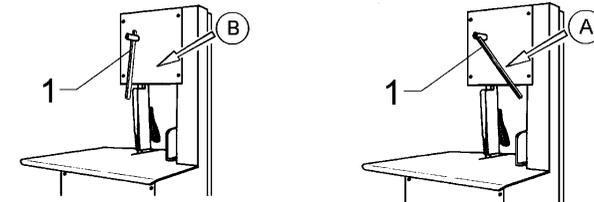

Fig. 7.6.1
7.6.1 - Blade tensioning setting (Fig. 7.6.1)
Blade tensioning could be settled mechanically moving knob "1". Rotate the knob in position "A" (Fig. 7.6.1) blade is tensioning. To unblock the blade rotate the knob in the position "B".